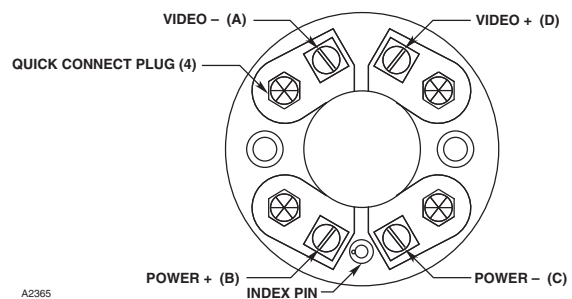

Figure 6—xWatch Camera Wiring Terminal Block
3. Connect the external wiring to the screw connectors marked A-, B-, C-, and D- on the camera terminal block. See Figure 6.